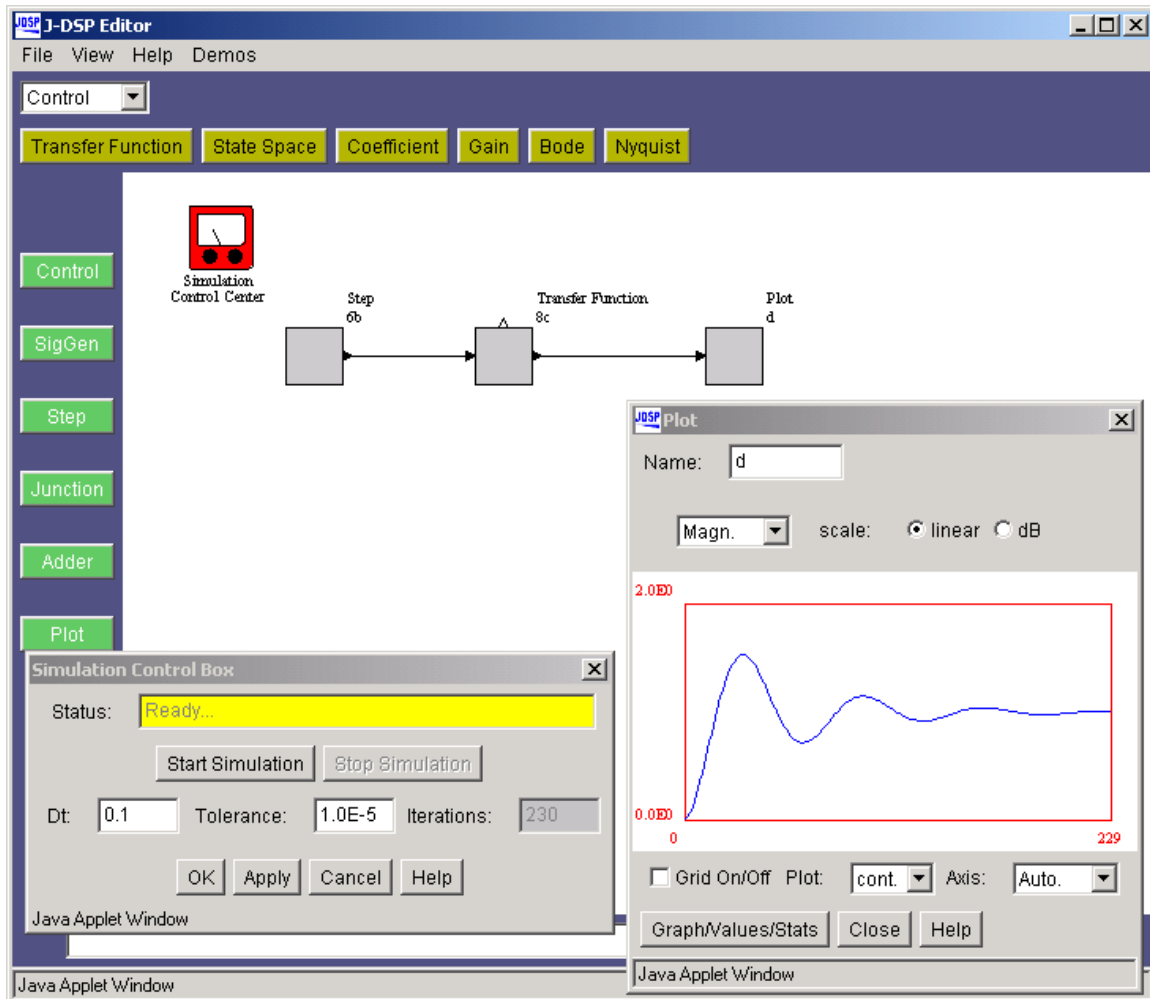

Figure 3: J-DSPC workspace after step 4.
Step 4: Create a **Control** block and place it on the workspace. Double click to open its dialog box. Your J-DSPC workspace should now be similar to figure 3.